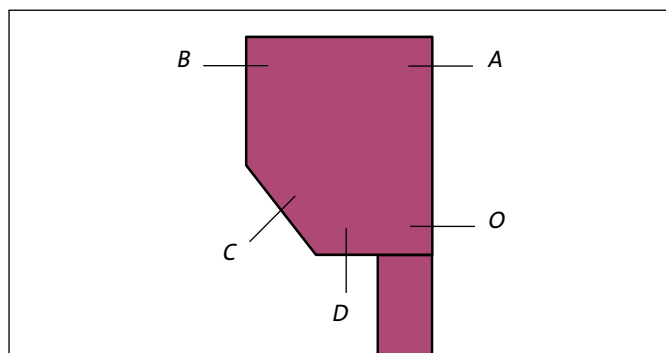

Fig. 5 : Choice operating exit tubular motor
- Possible operating exits: see figure 5 and table 7